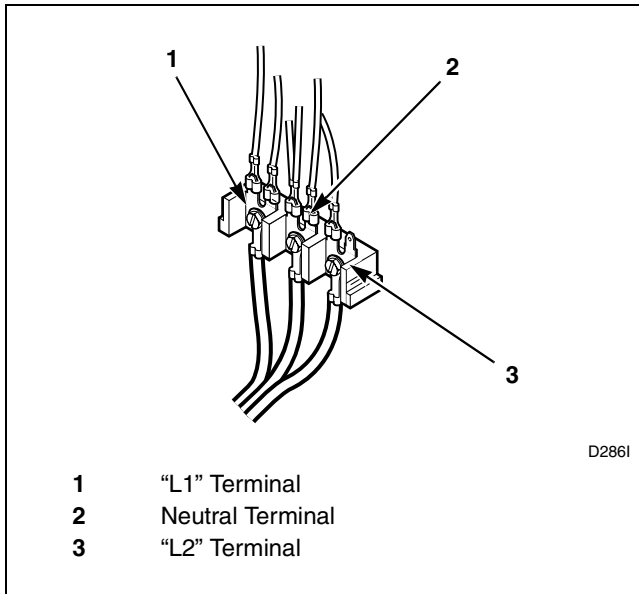

Figure 12
- Use the three screws from the accessories bag to attach the power cord wires to the terminal block. Refer to *Figure 12*.